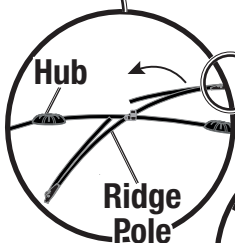

Fig. 3
- Rotate the ridge pole to form a cross with the roof pole. (Fig. 3)